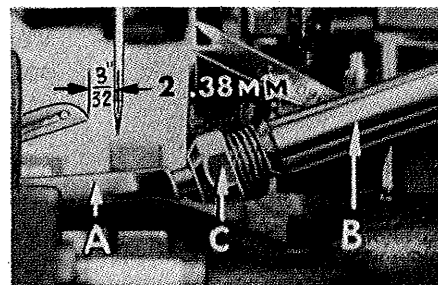
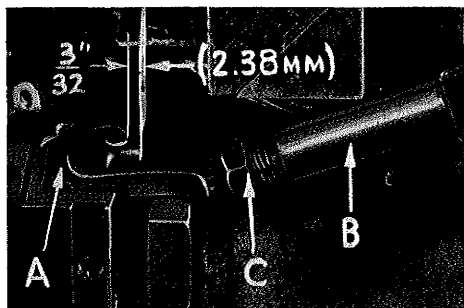

Fig. 6
Fig. 6A
At this point, insert lower looper (A, Fig. 6) on Styles 39500 QG, SD and TC
or lower spreader (A, Fig. 6A) on Style 39500 RN into bar (B). With lower looper or spreader at left end of its stroke, set looper or spreader point $\frac{3}{32}$ inch (2.38 mm) from centerline of needle (Fig. 6 or 6A) using looper gauge No. 21225- $\frac{3}{32}$. Do not have lower looper or spreader deflecting needle. Tighten nut (C). Now assemble differential (front) feed dog.